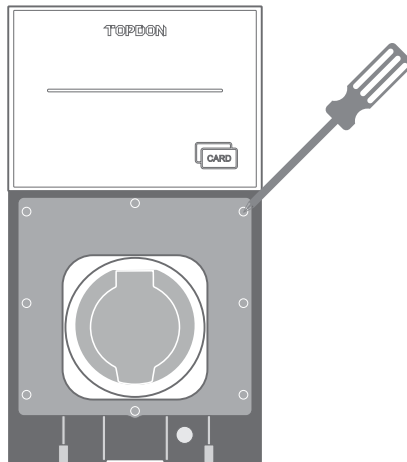

Fig. 4-12
3. Unscrew the eight screws to remove the inner cover. (See Fig. 4-12)